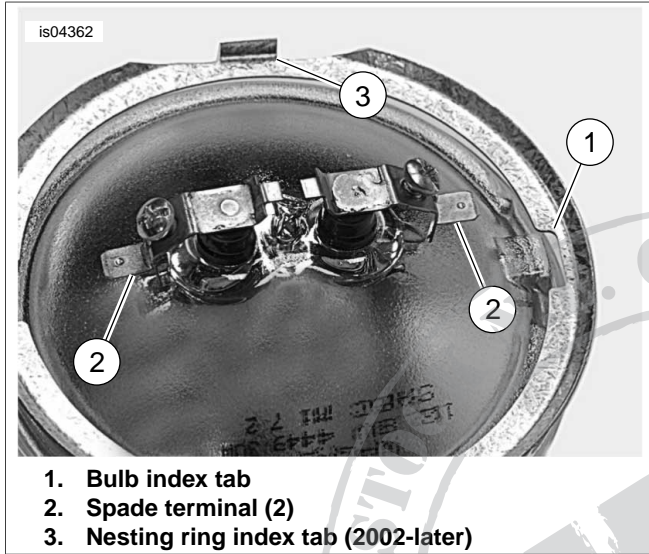

Figure 2. Auxiliary Lamp Bulb Terminal
- See Figure 2. Place inner nesting ring on bulb. Connect back wire to spade terminal next to bulb index tab (1). Install gray wire on remaining spade terminal.